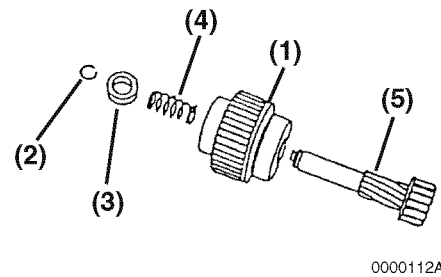

Figure 11-11
12. Disassemble the pinion stop (**Figure 11-11, (3)**), return spring (**Figure 11-11, (4)**), pinion clutch assembly (**Figure 11-11, (1)**), and pinion shaft (**Figure 11-11, (5)**).